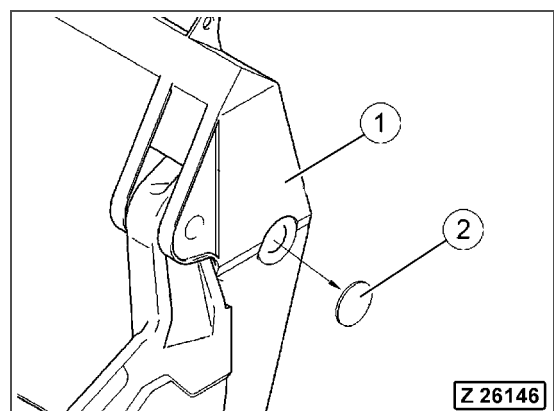

Fig. 5-112
6. Remove the cover (Fig. 5-112, Pos. 2) from the bucket (Fig. 5-112, Pos. 1) to access the pin.